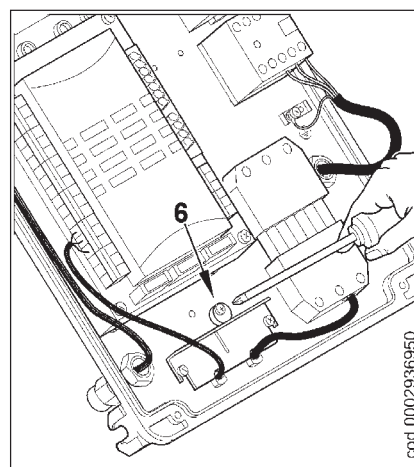

Fig. 3
- 3) Reposition the cable clamp plate (fig. 3). Turn the cam (4) so that the plate exerts sufficient pressure on the two cables, then tighten the screws that fasten the plate. Finally connect the 7 pole plug and the modulation control cables.